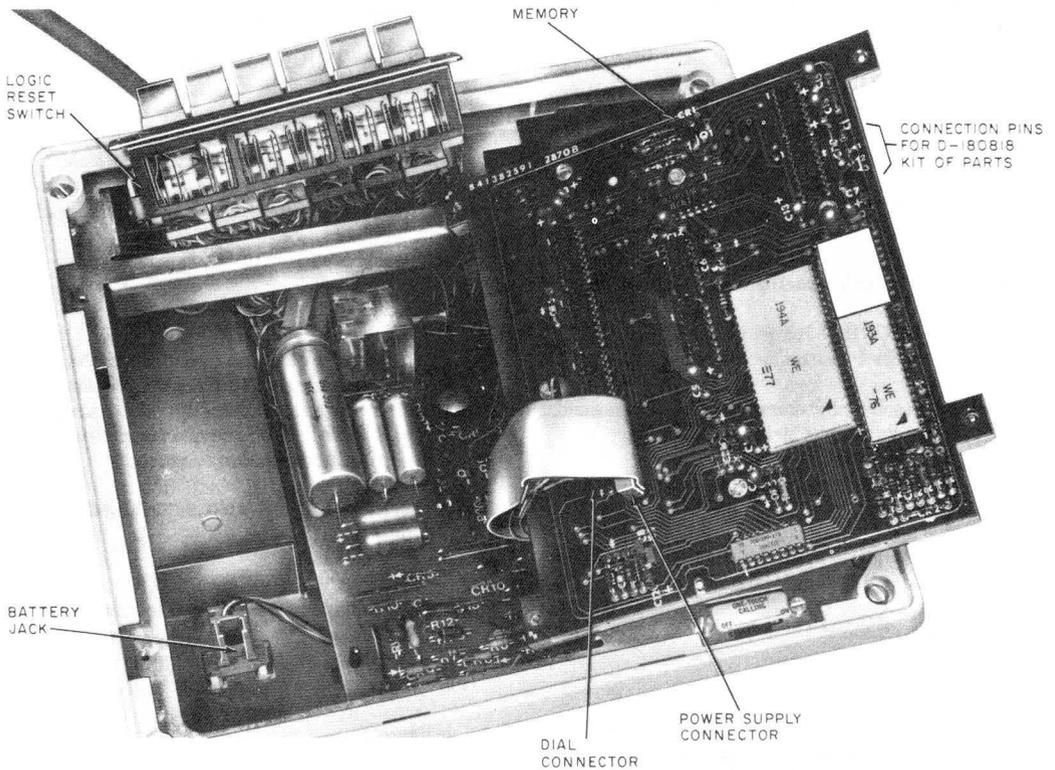

Fig. 5—2872A2M Telephone Set, Internal View, Overall
- (4) Disengage the two captive dial mounting screws and move dial aside.
- (5) Rotate left edge of the memory upward as shown by Fig. 5.
- Battery jack (Fig. 5)